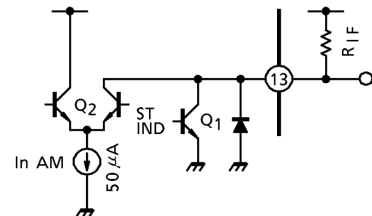

Fig.5 Internal circuit of pin⑬
- The terminal of pin(13) is built in stereo indicator function and modulated AM IF signal output. In AM mode,  $R_{IF}$  ( $3k\Omega$  or less) should be connected between  $V_{CC}$  and pin(13), or pin(13) should be connected to  $V_{CC}$  directly. (Fig.5) In case that  $R_{IF} > 3k\Omega$  or pin (13) is opened, this IC doesn't operate normally in AM mode. Because transistor  $Q_2$  is saturated.